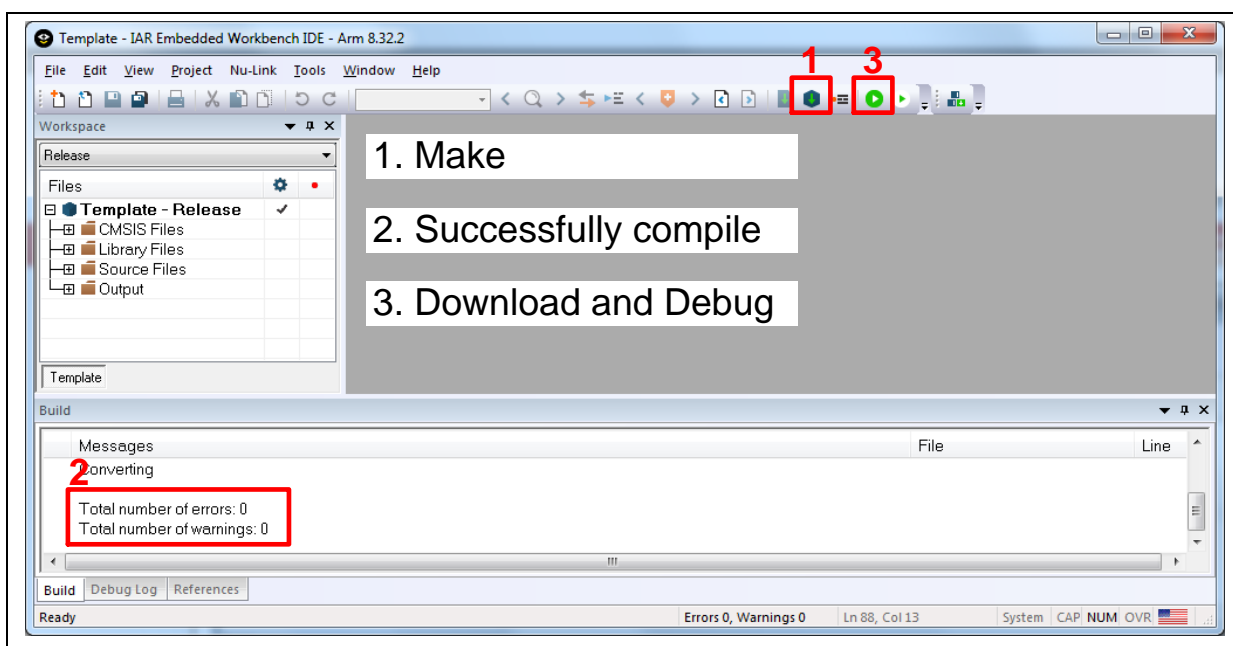

Figure 3-16 Compile and Download the Project
3. Make target file as presented in Figure 3-16. After successfully compile the project, download code to the flash memory and enter debug mode.